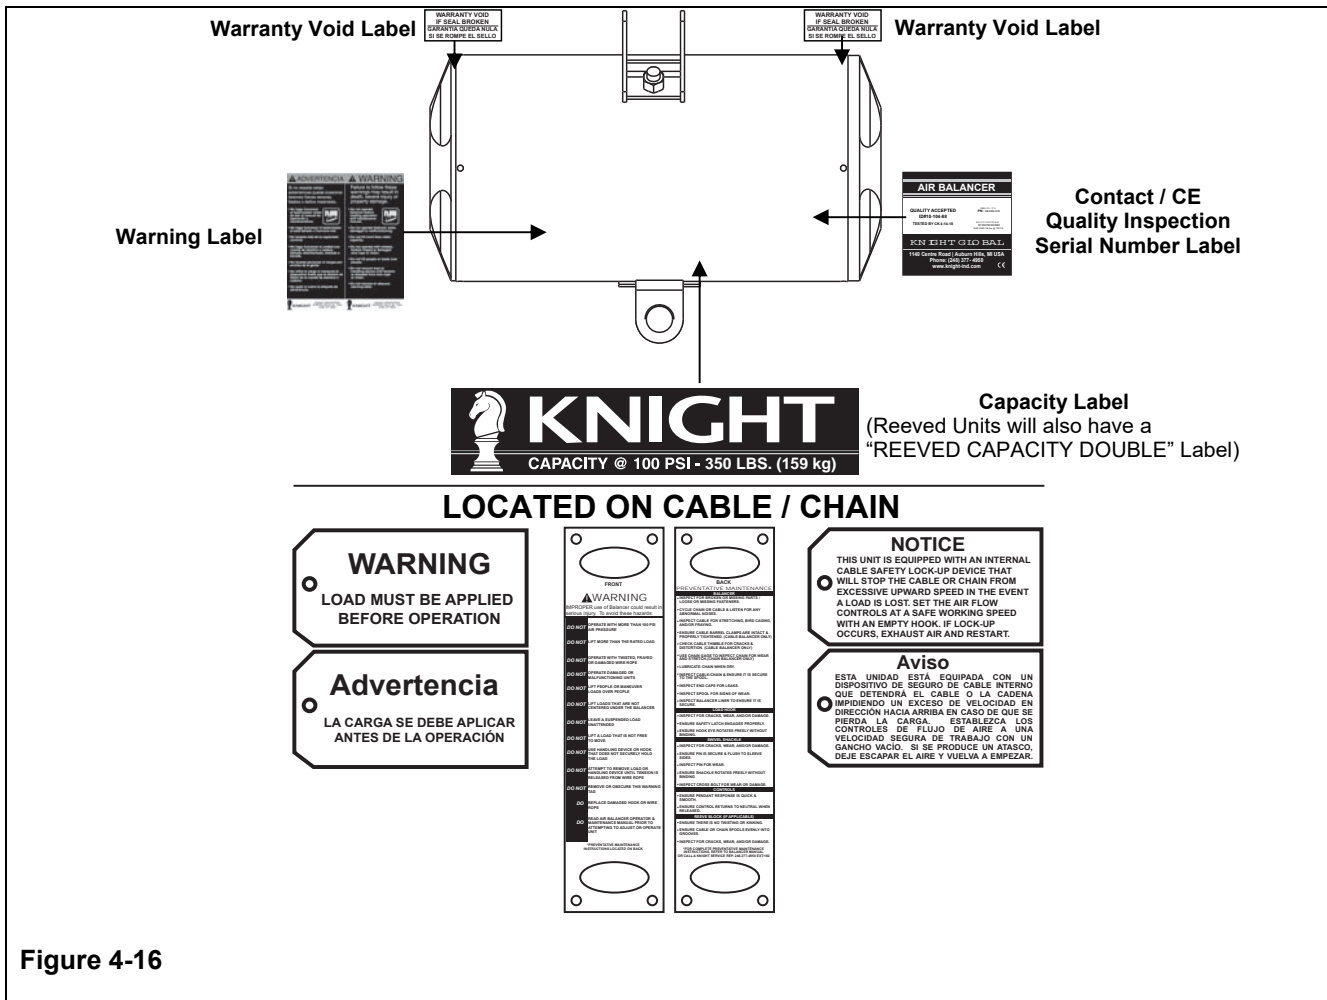

Figure 4-16
- Ensure that all labels are intact and legible (See Figure 4-16). Replace as necessary.